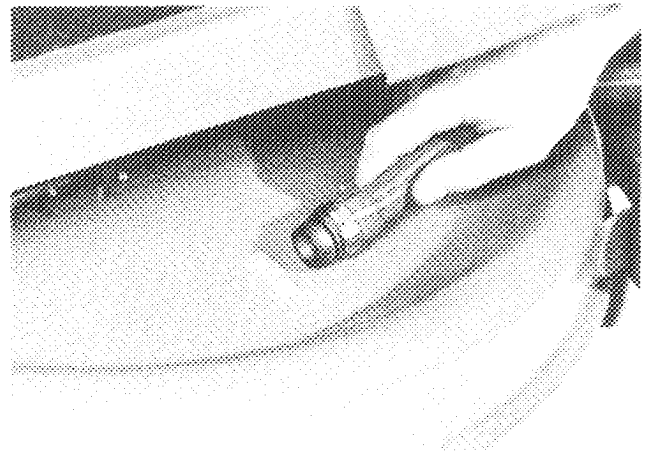

Figure 30
4. Move blade control forward, to the right and into ENGAGE detent. Using moderate water pressure, have someone else put end of hose — without nozzle — near wash-out port opening (Fig. 30). Allow blade and water to run for approximately 2 minutes; then move blade control backward, to the right and into DISENGAGE detent. Also shut engine off.